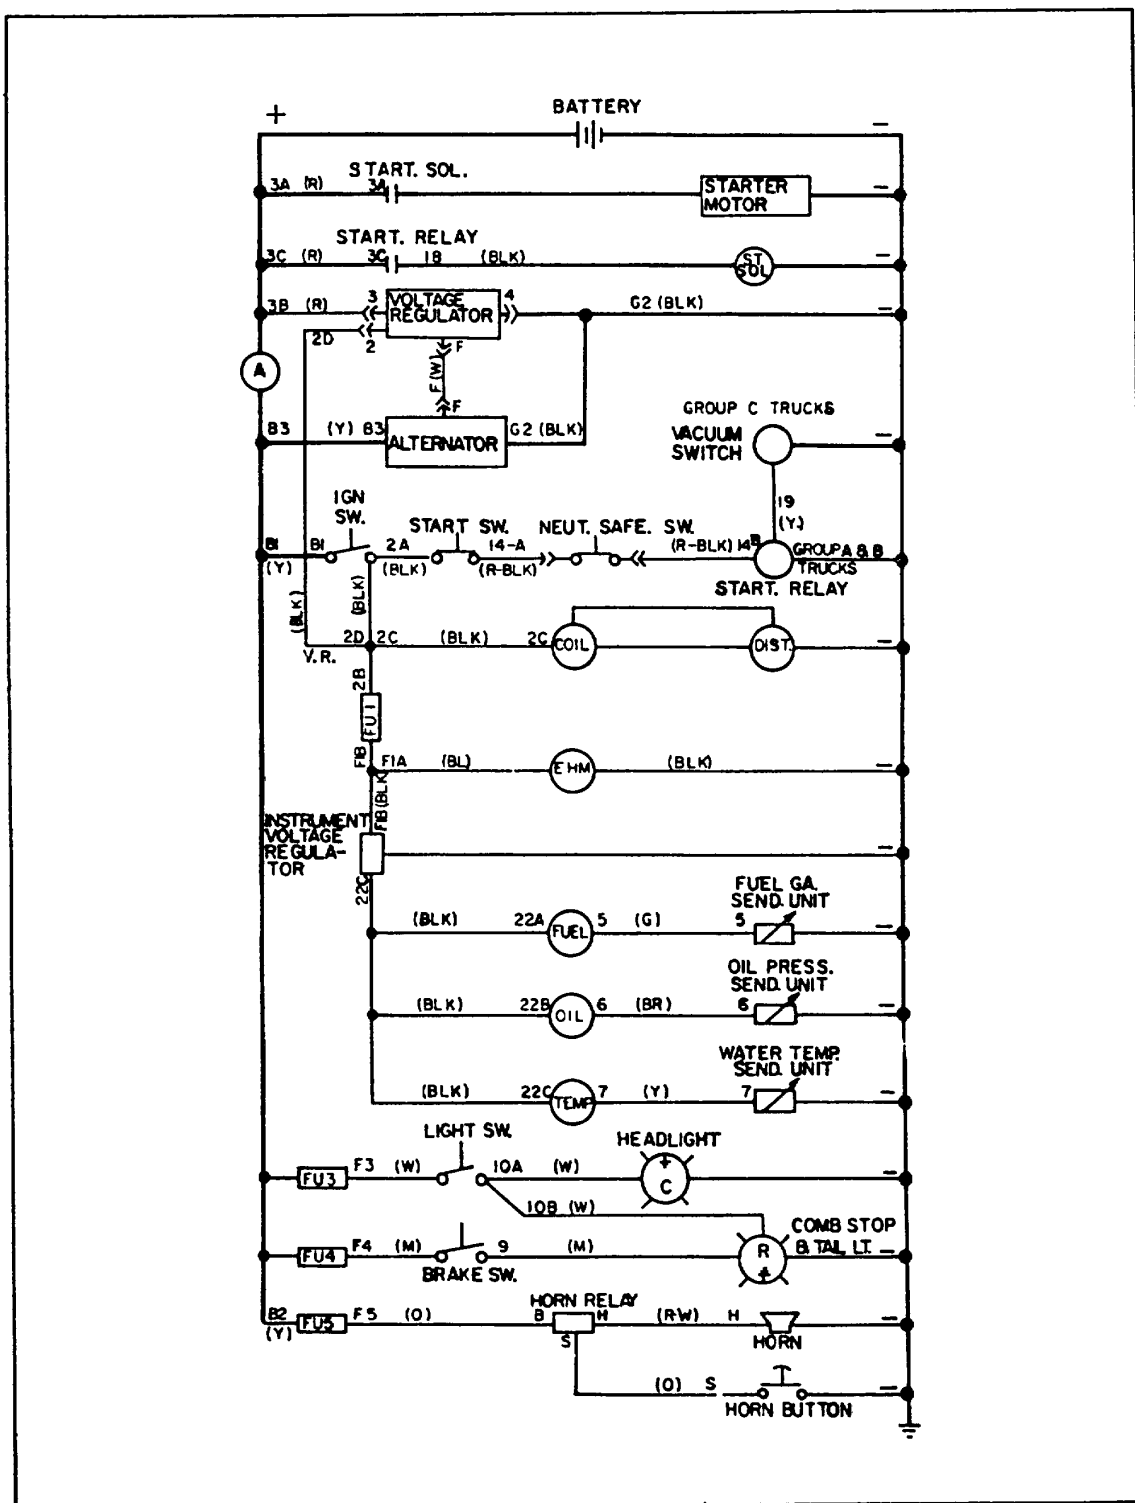

Figure 1-11. Electrical Schematic
**1-38.** The following paragraphs contain descriptions of electrical system components for the truck, excepting those units previously described in connection with the engine assembly. (See figure 1-11).
**1-46.** The fuses in the fuse holder protect the various electrical circuits of the truck. Refer to the wiring diagram (figure 1-11) for identification of each fuse.